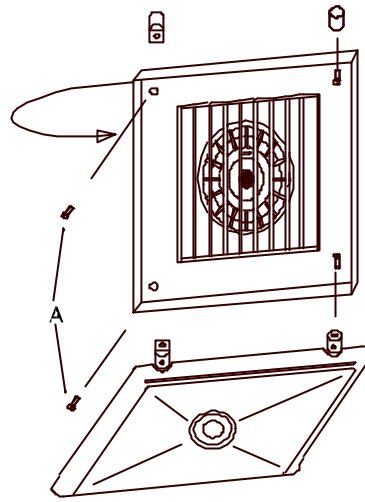

Figure 5f
- From inside the oven chamber, remove the screws fixing the left panel (fig. 5f item A). The fan is fixed to the driving shaft with two screws with different thread. The internal one (smaller head) has a right thread, whereas the other one (bigger head) has a left thread. To disassemble the fan, remove first the screw with a smaller head and then the one with a bigger head. The fan can be extracted with a special extractor (see accessories). To replace it, perform the same operations in the inverse order, and tighten the screws firmly.